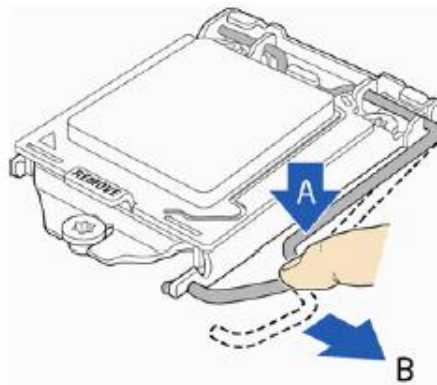

Figure 20: Unlatch the socket lever
1. Unlatch the processor socket lever by pushing it down and away from the socket. (Figure 20, A, B)